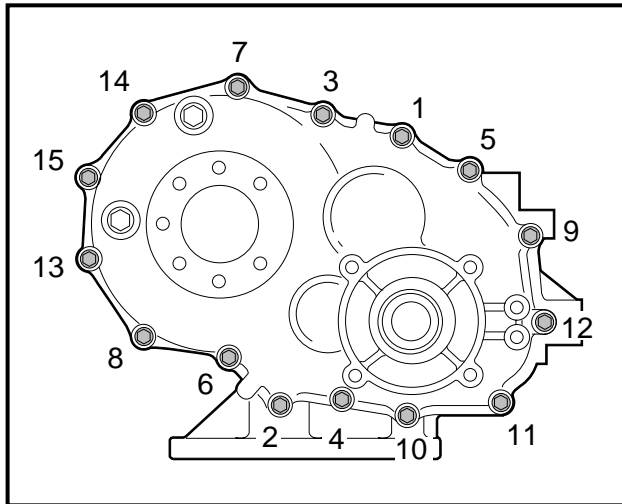

Figure 16-89 Casing Torque Sequence
10. Install and finger tighten the fifteen bolts (28) (**Figure 16-40, Page 16-16**) that secure the left and right sides of the case together. Then, in sequence shown, tighten the bolts to 17 ft-lb (23.1 N·m) (**Figure 16-89, Page 16-37**).